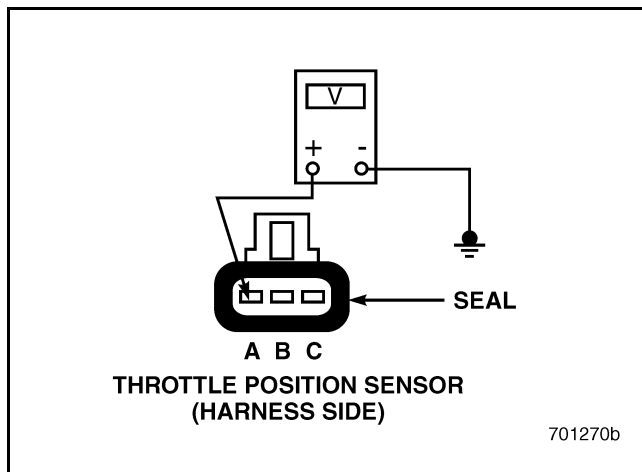

Figure 562
2. Disconnect the harness connector from the Throttle Position (TP) Sensor.
4. Measure the voltage between pin A on the harness side of the TP Sensor connector and a good ground (see Figure 562).